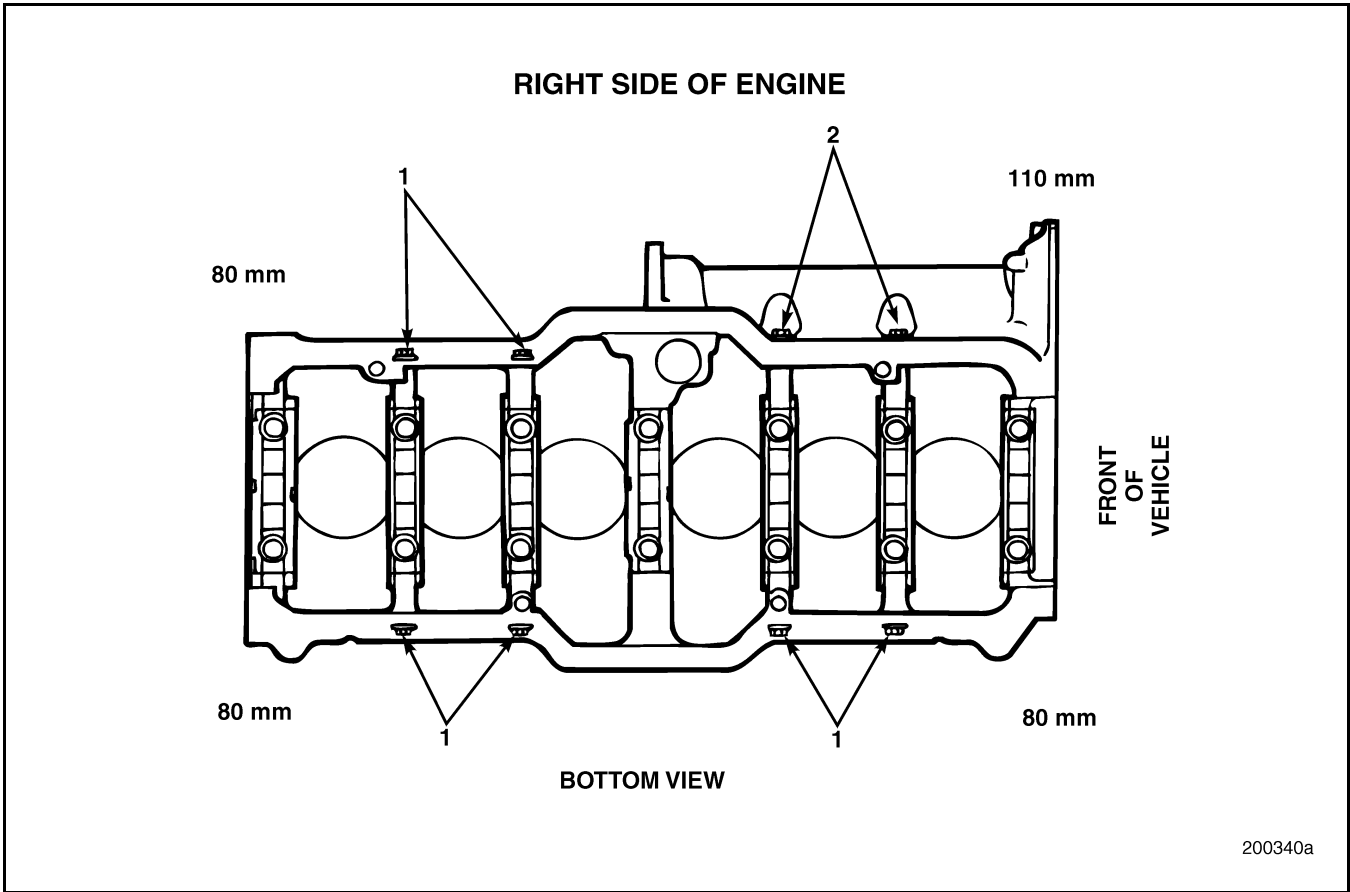

Figure 328 — Buttress Capscrew Locations
8. Reposition the cap on the journal. Lubricate the capscrews with clean engine oil of the proper specification. Lubricate and install the bearing cap buttress capscrews as required, finger-tight. Install the bearing cap capscrews and tighten to the specified torque value, 210 lb-ft (285 N•m), using torque wrench J 24407, or equivalent. Refer to Figure 328.